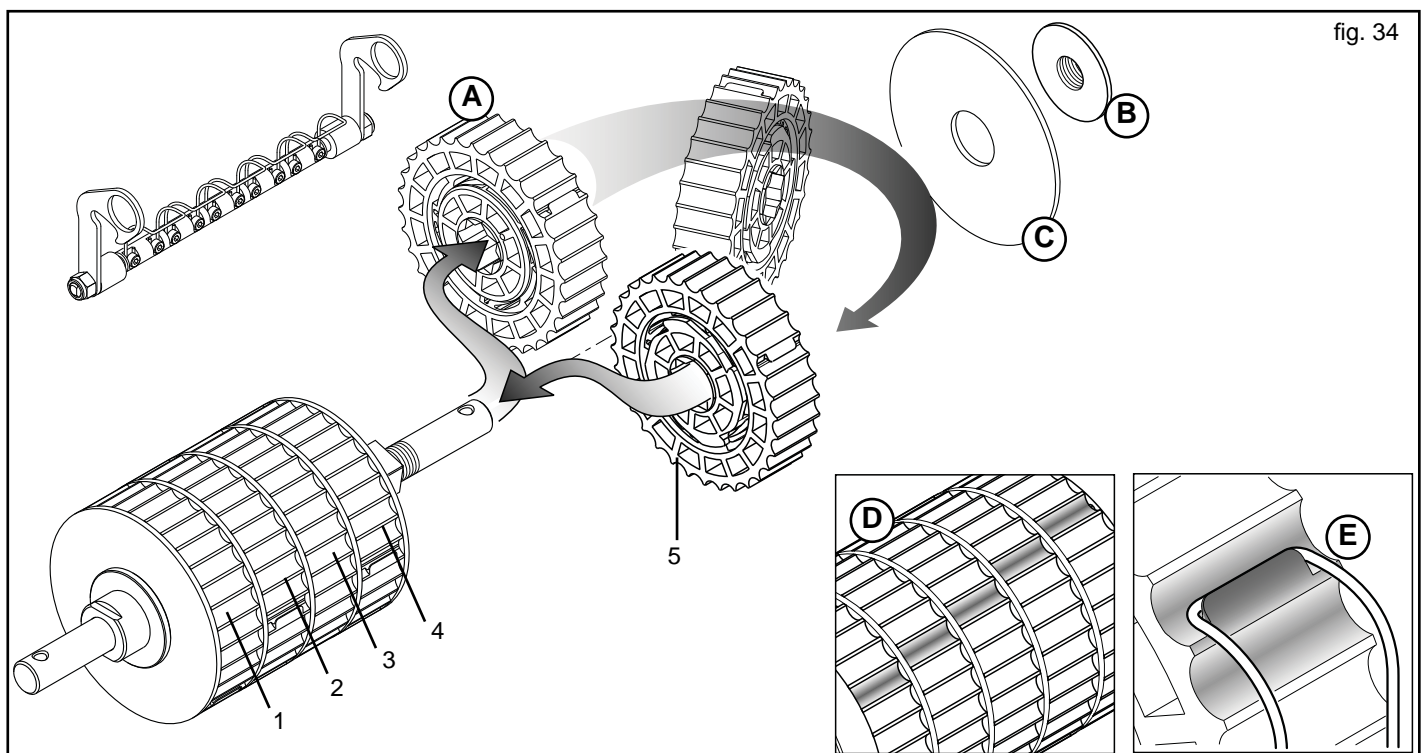

fig. 34
Considering that every section (A, Fig. 34) of the dosing roller distributes 20% of the product contained in roller itself, the number of operating sections can be increase and the gearbox rotation speed to reduce to obtain more homogeneous distribution.
First, take the dosing roller off the machine. Then, unscrew the knob (B, Fig. 34) using the supplied wrench and remove the lock nut (C). Extract the section(s) to be activated and put them back in **their positions** (1-2-3-4-5, Fig. 34) turning them by 180°.
When re-assembling the sections, make sure that during operation the dosing grooves of the active sections are staggered from one another (D, Fig. 34). This will give continuity to distribution.
Block the cleaning element in the operating position and make sure that the springs hook the previously excluded sections (E, Fig. 34) preventing their rotation and consequently distribution.